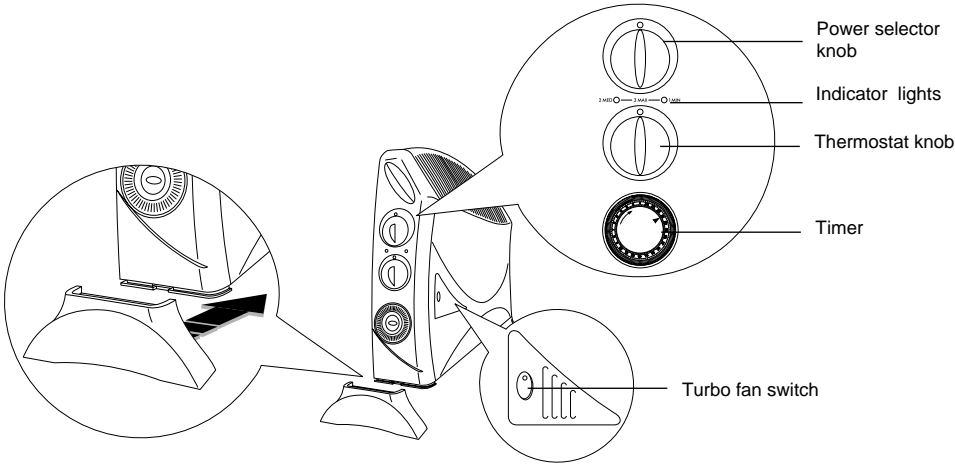

Fig.1
Insert the foot into the slot at the side and push it in all the way until it hooks onto the two teeth (Fig. 1).
**Adjusting the thermostat (see fig. 1)**
**Models with turbo fan boost (see fig. 1)**